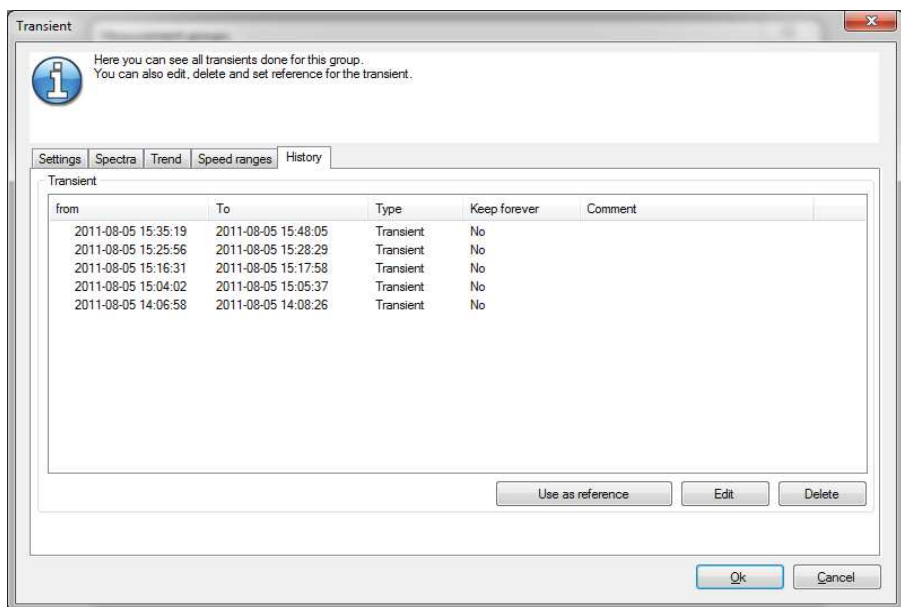

Fig. 9. Historical transients measured.
- 9 The **History** tab will be empty until the first measurement happens. Click **OK** (→ **fig. 9**).